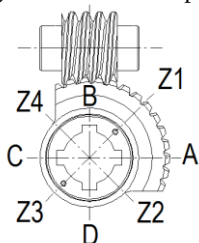
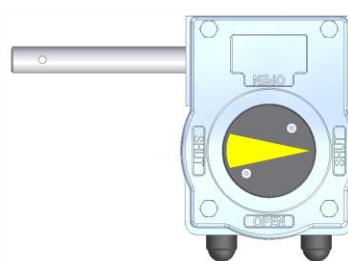
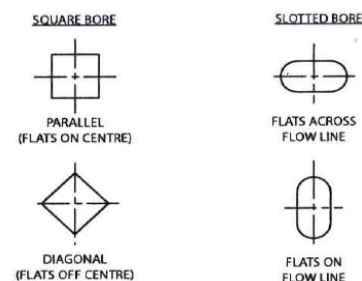

Figure 2: keyway in closed position
Figure 3: AB left handed gearbox
Figure 4: drive options
Figure 2 shows the different options of key positions. Figure 3 is the top view of our standard left handed gearbox in closed position. Figure 4 shows the different drive options. Special drive requirements on request.
7. When opening the valve completely (90°) is not possible, loosen the setscrew-open (see figure 3) by turning it counter clockwise. Continue turning the handwheel until the valve is completely opened.